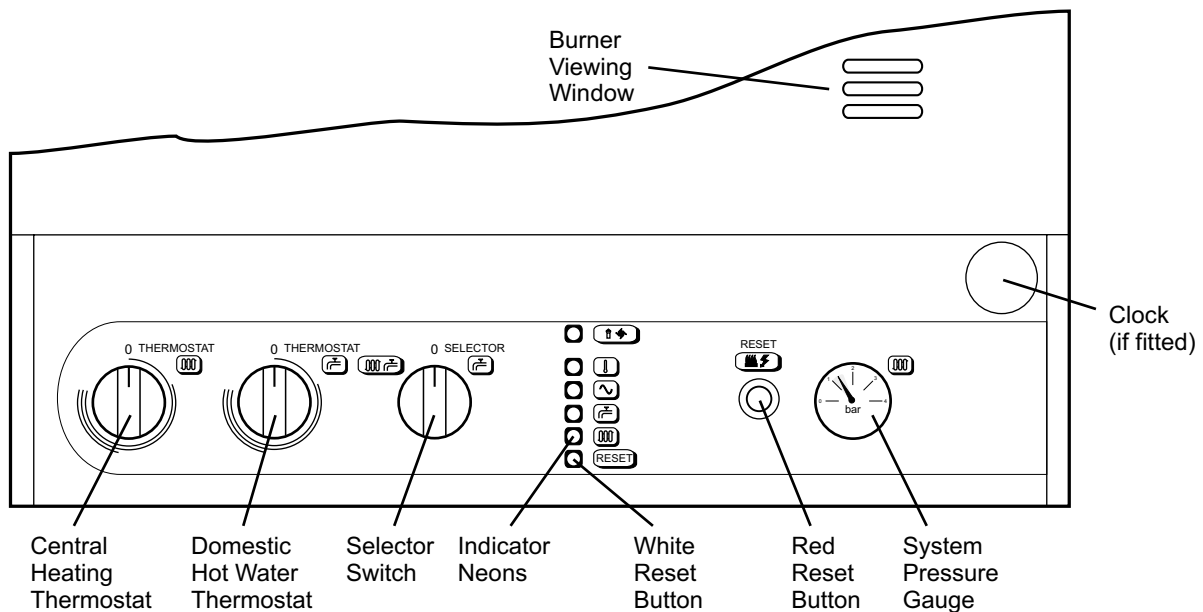

Fig. 1
-  Overheat thermostat has operated - press **white** reset button (see Fig. 1) to reset.
When the red reset button (  ) is illuminated it indicates that the burner has failed to light - Press the **red** reset button (see Fig. 1) and the ignition sequence will restart.
This thermostat automatically switches the boiler off in the unlikely event of the boiler overheating. When the thermostat operates, the  neon is illuminated. Press the white reset button (see Fig. 1) and the ignition sequence will restart. If this continually happens, contact your Service Engineer.
Refer to Fig. 1 for boiler controls.